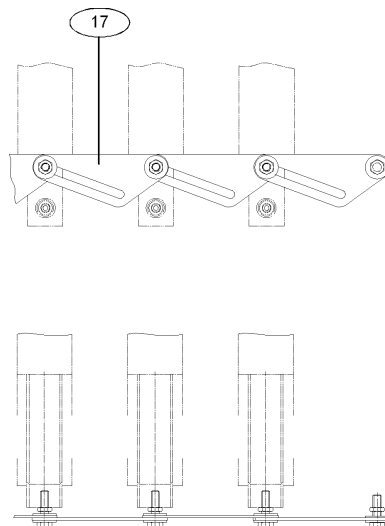

Fig. 20
The head plate hangs between the two crossbeams (04) by its handles (06.01, 06.03) and is firmly bolted to the head piece (01). Each handle is also connected to the linking pieces of the plate-transport system (17) (see Fig. 20).